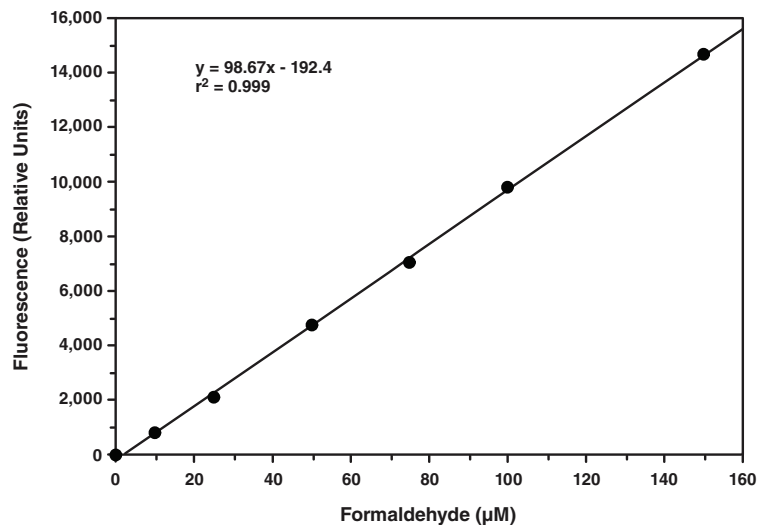

Figure 3. Formaldehyde standard curve
3. Plot the corrected fluorescence values (from step 2 above) of each standard as a function of the final formaldehyde concentration (μM) from Table 1. See Figure 3, on page 16, for a typical standard curve.